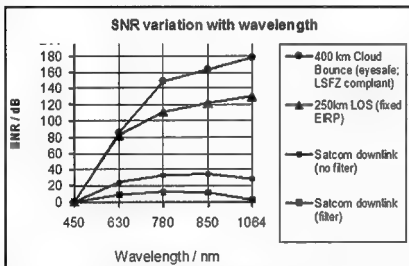

Figure 3: Indicative changes in SNR across the atmospheric window for three optical DX modes at five laser/light wavelengths.
The effect of night sky noise on the best band is illustrated in Table 2 and Figure 3 for a satellite downlink. Two cases are tabled, one for a fixed noise floor, the other for a noise floor set by filtered sky noise. In this latter case the night sky noise (7) in dB has been subtracted to give the SNR variation with wavelength. Actual noise and SNR values depend on factors such as detector area and field of view, bandwidth, and modulation method.
Table 2 shows the weak signal SNR variation across the window for fixed EIRP. With no sky filter, or for a system limited by receiver noise, there is a large increase (35 dB) in SNR in moving from the blue to the optimum wavelength (850 nm). When optically filtered night sky noise is subtracted from the electrical signal the NIR band remains optimum although the variation across the window is now much less. Figure 3 shows both these cases.
Table 2 and Figure 3 show the expected variation in SNR over visible and near infrared wavelengths in clear air. Although these figures should be regarded as indicative only, they clearly show how operation in the visible band is handicapped by high air losses.